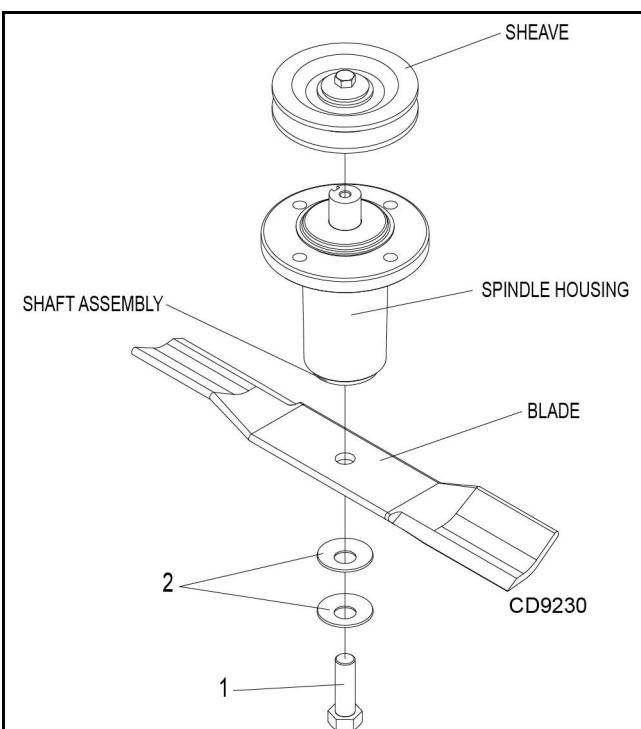

Figure 12. Blade and Spindle Assembly
1. Remove bolt (1), Figure 12, which has right hand threads.
■ When installing blade, the lift of the blade must be toward the spindle blade housing as shown in Figure 12. Torque bolt (1) into shaft assembly to 100 lbs-ft.